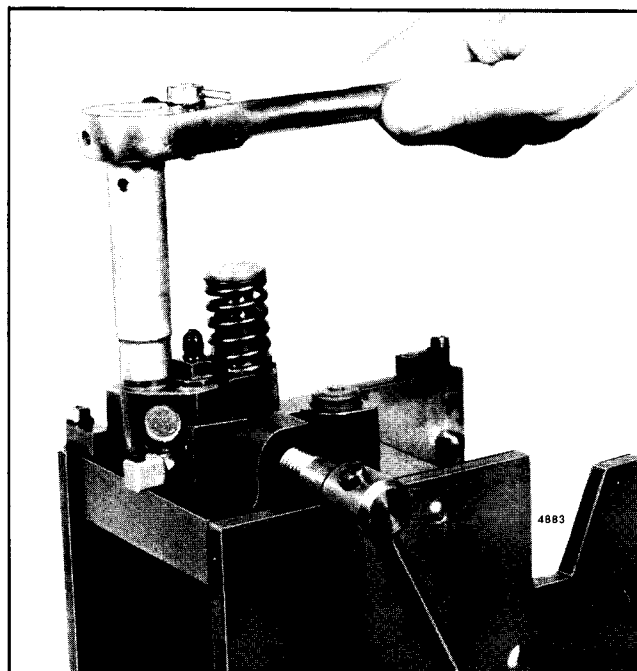

Fig. 18 - Removing or Installing Filter Cap
1. Support the injector upright in injector holding fixture J 22396 (Fig. 18) and remove the filter caps, springs (early design filter cap), filters and gaskets.